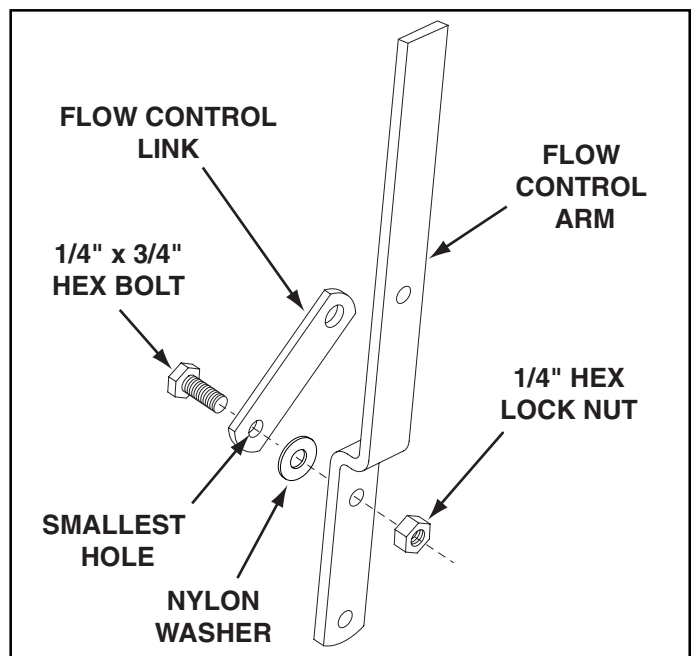

FIGURE 6
15. Assemble the flow control link (end with small hole) to the flow control arm using a 1/4" x 3/4" hex bolt, a nylon washer and a 1/4" hex lock nut as shown in figure 6. **Tighten carefully.** The flow control link should not be loose but should pivot with no more than slight resistance.